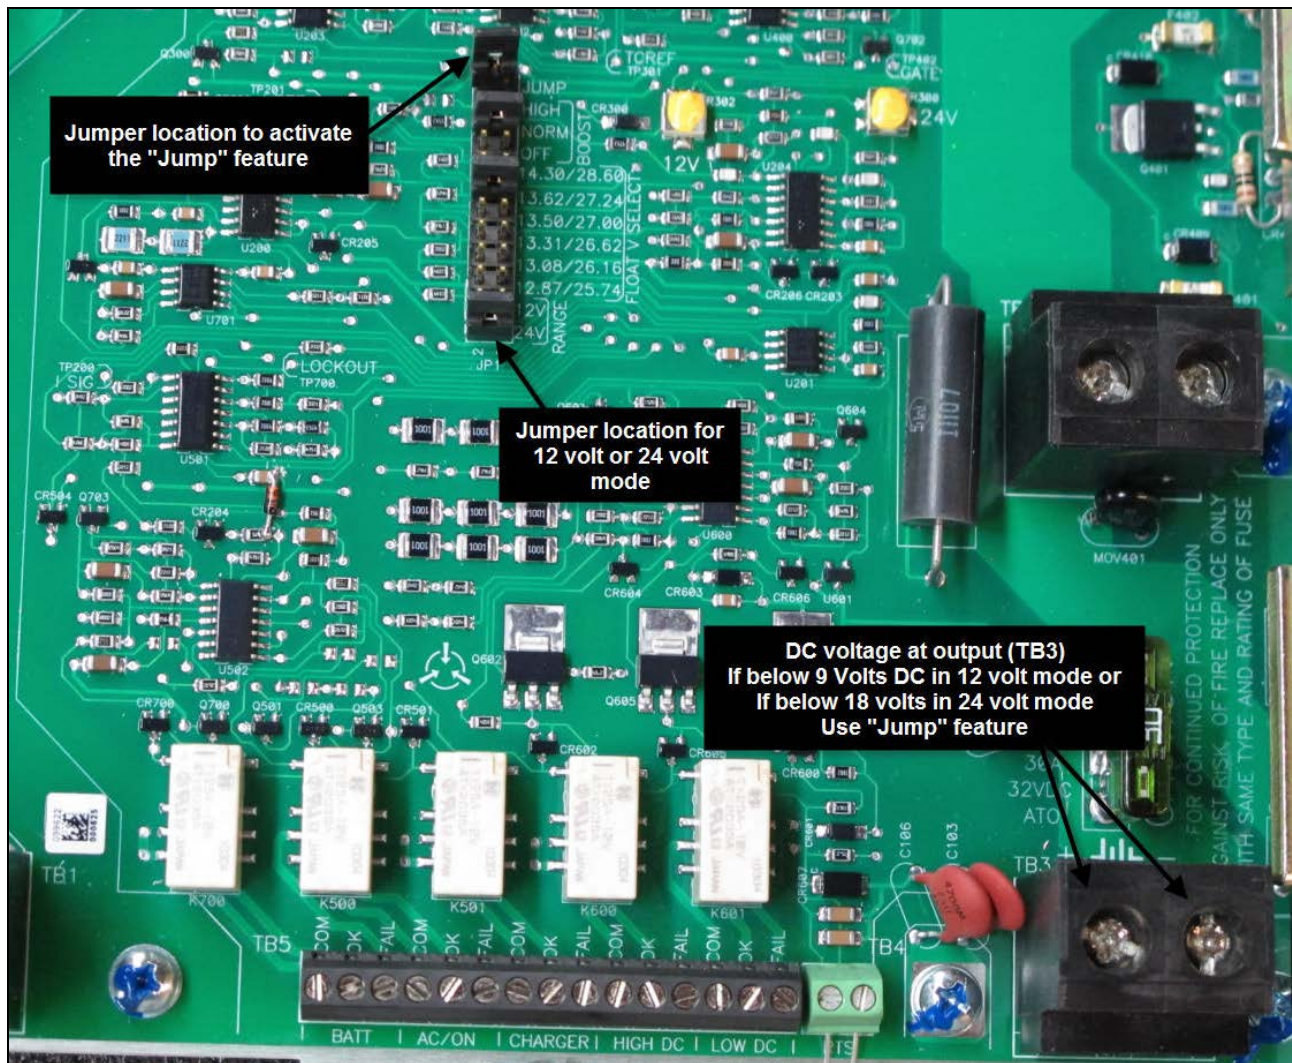

Figure 8
5. Battery Fault Possible Cause 5: Discharged battery (see Figure 8)